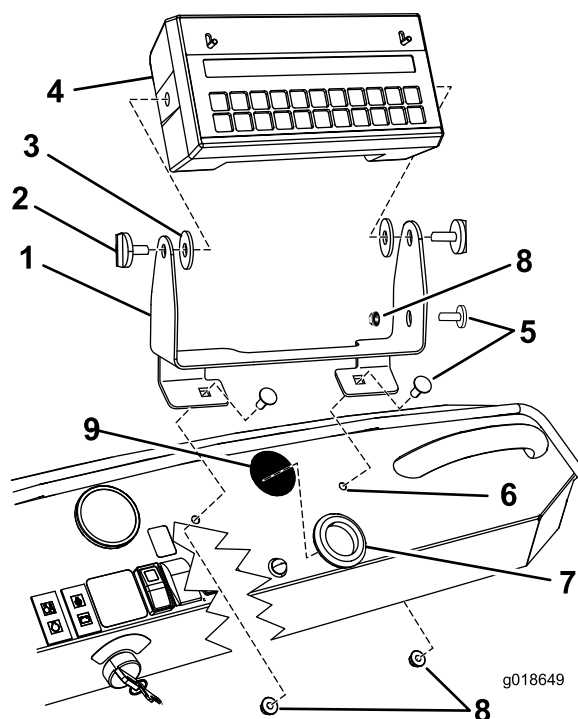

Figure 2
1. Install the mounting bracket to the dashboard and secure it with 2 carriage bolts (5/16 x 3/4 inch) and locknuts (5/16 inch) as shown in Figure 2.
- Assemble the computer console to the mounting bracket with 2 hand knobs (Figure 2).